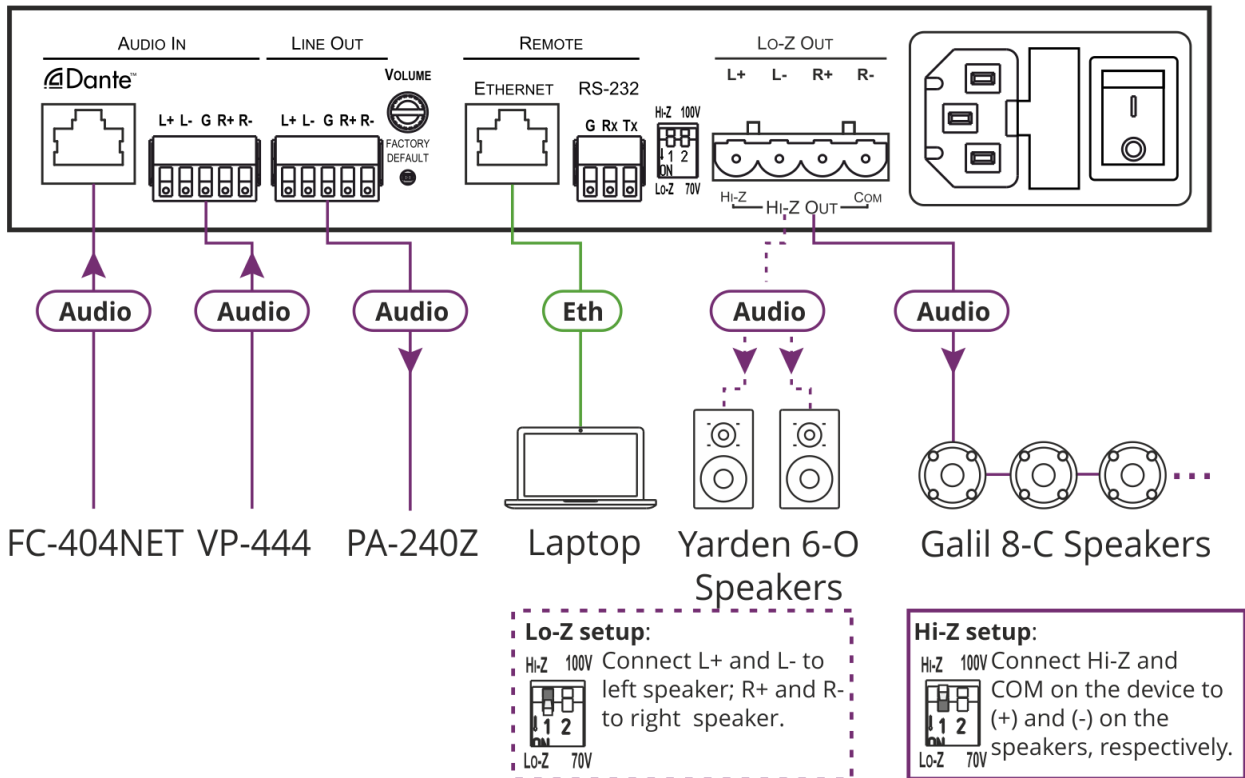

Figure 1: Connecting to the PA-240Net Rear Panel
To connect the **PA-240Net** as illustrated in the example in Figure 1:
7. Connect the power cord (not shown in Figure 1).